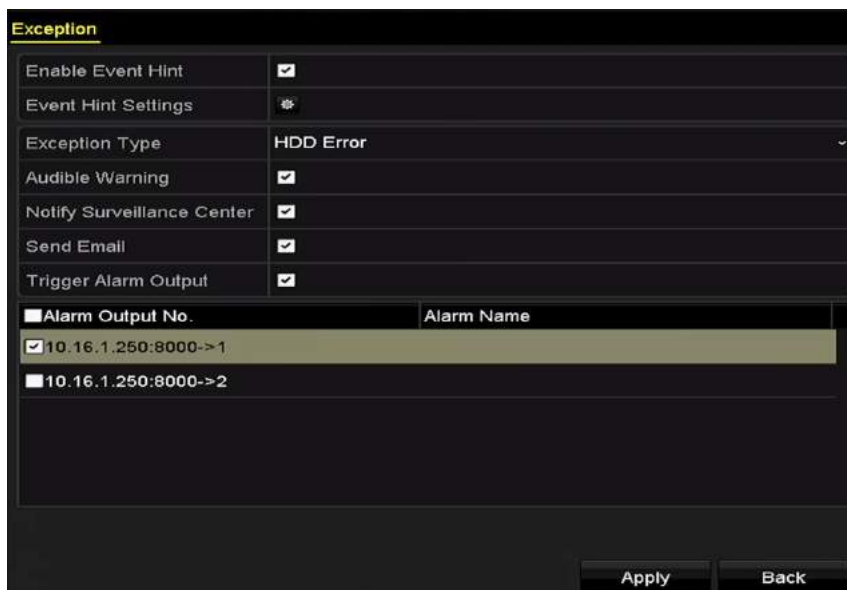

Figure 14-30 Configure HDD Error Alarm
Step 3 Check the checkbox(s) below to select the linkage action(s) for HDD error, as shown in Figure 14-30.